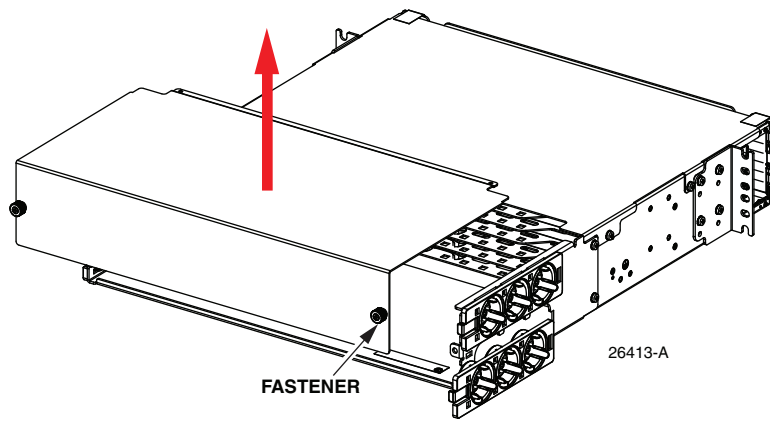

Figure 17. Removing the Rear Cover
1. Remove the rear cover by loosening the captive fasteners, as shown in Figure 17.